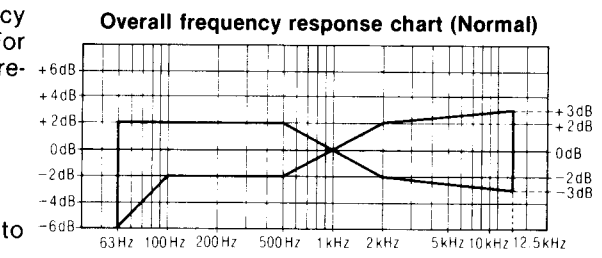
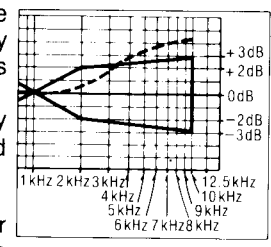
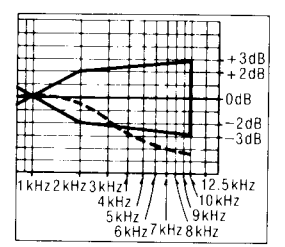

Fig. 10
Fig. 12
Fig. 13
6. Playback the signals recorded in step 6, and check if the frequency response curve is within the limits shown in the overall frequency response chart for normal tapes (fig. 10). (If the curve is within the charted specifications, proceed to steps 7, 8 and 9.)
When the curve exceeds the overall specified frequency response chart (fig. 10) as shown in fig. 12.
2) Repeat steps 5 and 6 for confirmation (Proceed to steps 7, 8 and 9 if the curve is now within the charted specifications as shown fig. 10.)
3) If the curve still exceeds the specifications (fig. 10), increase bias current further and repeat steps 5 and 6.
When the curve falls below the overall specified frequency response chart (fig. 10) as shown in fig. 13.
3) If the curve still falls below the charted specifications (fig. 10), reduce bias current further and repeat steps 5 and 6.